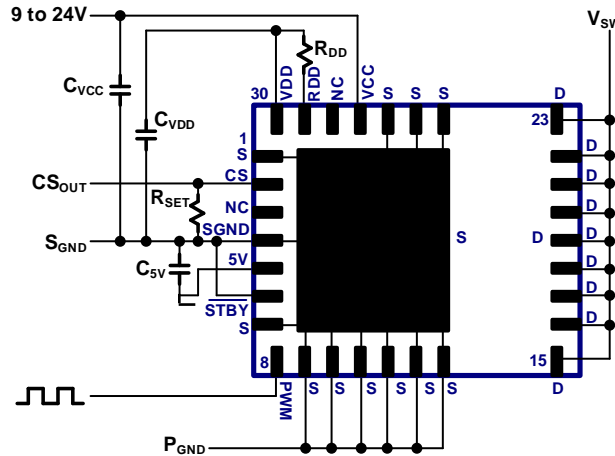

Fig. 20. IC connection diagram
The typical connection diagram for this GaN Power IC is shown in Fig. 20. The IC pins include drain of the GaN power FET (D), source of the GaN power FET (S), IC supply (V_{CC}), gate drive supply (V_{DD}), gate drive turn-on control SET input (R_{DD}), PWM input (PWM), separate signal GND (S_{GND}), current sensing output (CS), auto-standby mode input (\overline{STBY}), and 5V supply (5V). The Source pad and Source pins (S) should all be connected to the system P_{GND} . S_{GND} pin 4 must be connected directly to Source PAD underneath IC. The Source pins (S) should each be connected externally to the Source pad directly underneath the IC. The Drain Pins (D) should all be shorted together by copper in the layout (see Section 9). The external components around the IC include V_{CC} filter capacitor (C_{VCC}) connected between V_{CC} pin and S_{GND} pin, V_{DD} filter capacitor (C_{VDD}) connected between V_{DD} pin and S_{GND} pin, turn-on dV/dt set resistor (R_{DD}) connected in between V_{DD} pin and R_{DD} pin, a current sense amplitude set resistor (R_{SET}) connected between CS pin and S_{GND} , and auto-standby mode pin (\overline{STBY}) connected to S_{GND} . An external capacitor (C_{5V} , 0.01 μ F max) is required between pin 5V and S_{GND} . This 5V pin is for internal purposes only and must not be used for biasing external circuitry.